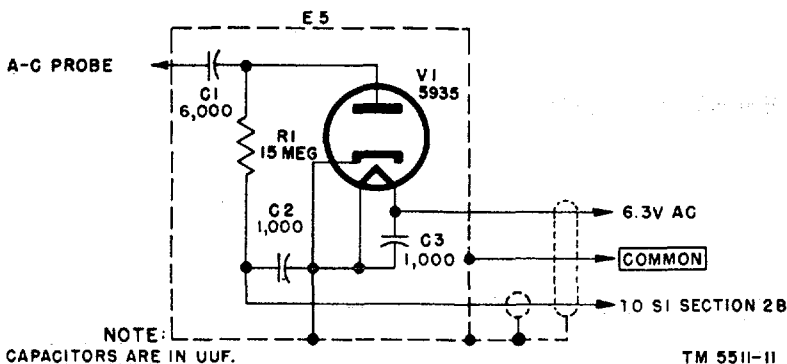

Figure 11. A-c probe, schematic diagram.
e. **A-C PROBE.** The a-c probe (figs. 11, 20, and 21) consists of a diode mounted in a holder. In addition, there is a coupling capacitor, a coupling resistor, and bypass capacitors. The diode acts as a rectifier which changes the applied ac to dc. The dc is then applied to the amplifier and indicated on the meter.
a. The a-c probe (figs. 11, 20, and 21) consists of a diode mounted in a special holder to enable the probe to make accurate measurements at high frequencies. The a-c probe (fig. 11) consists of a diode (V1) connected in the circuit as a shunt half-wave rectifier, an input coupling capacitor (C1), an input resistor (R1), and bypass capacitors (C2 and C3). Because of the high value of the input resistor (15 megohms) and the input capacitor (6,000 uuf), the diode is essentially a peak indicating rectifier. The scale of the instrument is calibrated to read rms volts for a sine wave input. For nonsinusoidal input voltages, the instrument reads .707 of the peak value. Diode V2 (6AL5) acts as a balancing diode and is used to buck out the contact potential of V1 with no input applied to the a-c probe (fig. 10).